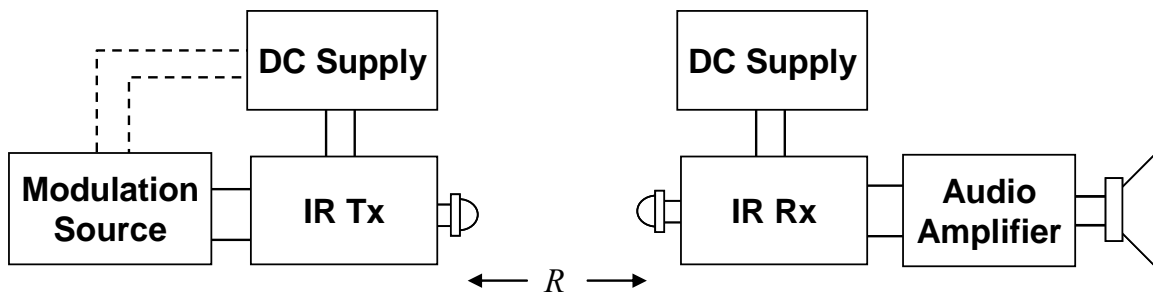

Figure 5-1 –System block diagram.
We are now ready to put together our complete communications link as shown in Figure 5-1. The transmitter and receiver each have their own separate power supply; one of these is the supply you built in ECE 2B. The output of the demodulator section on the receiver is connected to the audio-amplifier system that you built in an earlier lab.
- Construct the circuit in Figure 5-1 using the bench function generator as a modulation source. *This should be essentially the point at which you left off the previous lab.* Start with a transmitter-receiver spacing of around $R \approx 0.5\text{m}$. Our ultimate goal will be to